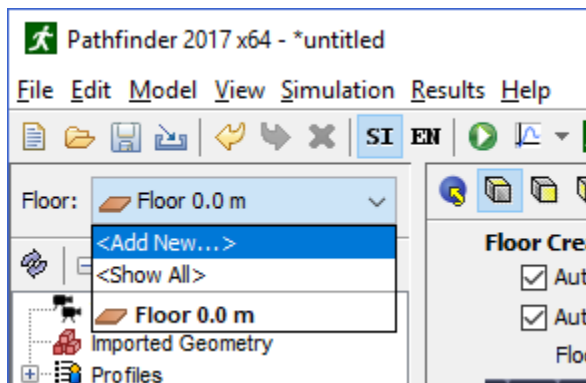

Figure 20. Adding a new floor
1. Click on the floor drop-down box above the Navigation View, and select **<Add New>** as shown in Figure 20. A dialog will open asking for the floor location.
To change the active floor, click the floor drop-down box as shown in Figure 20, and select the desired floor. This will make that floor active and all other floors non-active.
To show all floors click the floor drop-down box as shown in Figure 20, and click **<Show All>**.